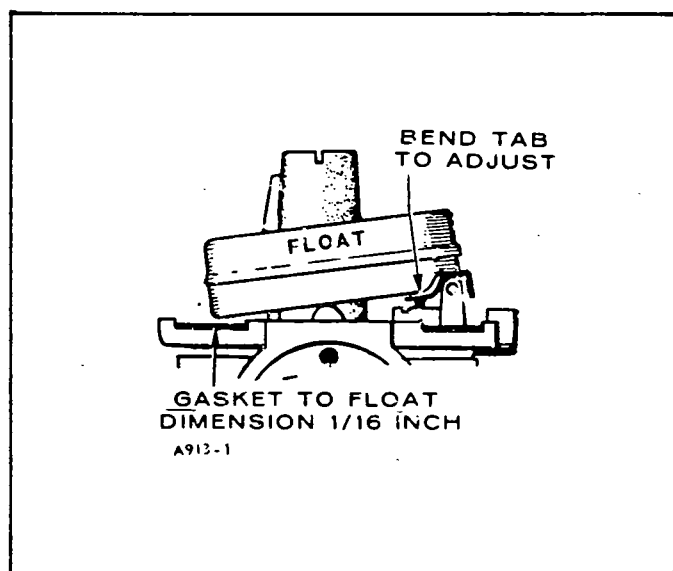

FIGURE 12. FLOAT LEVEL ADJUSTMENT
Check the adjusting needles and nozzle for damage. If float is loaded with fuel or damaged, replace it. The float should fit freely on its pin without binding. Invert the carburetor body and measure the float level, Fig. 12.
6. Check the float level with the carburetor casting inverted. See Figure 12.
To check float level, remove the entire main fuel adjustment assembly from the float bowl (unscrew large nut from float bowl - Figure 12). Invert the carburetor cover and float. With the float parallel to the cover gasket. The float tab should just touch the fuel inlet valve spring. With the float then hanging, its weight should compress the spring and the top of the float should be 1/16 - 1/8 from the cover gasket. The proper level from the float to the gasket should be 1/16" with the valve spring compressed. The float tab should just touch the fuel inlet valve and not compress the inlet valve spring. Adjust by bending the tab on the float.